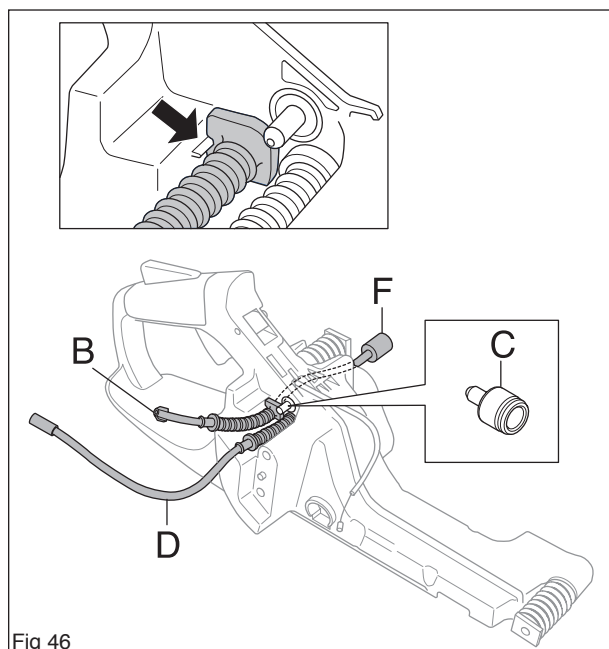

Fig 46
7. If necessary, pull-out the fuel hose and pull off the fuel filter. (see figure 46)
The two-way valve (C) has the following properties: (see figure 46)
Use suitable pliers with a plain cutting face and loosen the hose (B) (see figure 46) from the fuel tank. Align the cut-out against the plastic pin when assembling.